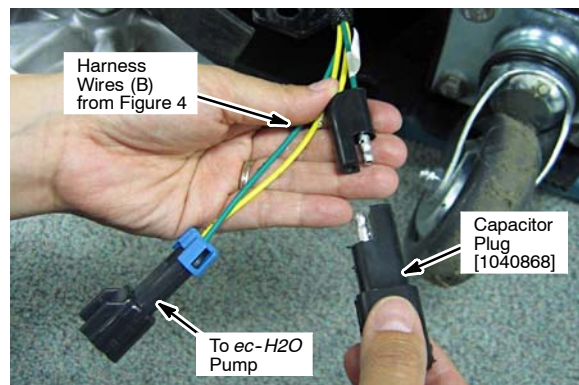

Fig. 24
5. Connect the capacitor plug [p/n 1040868] to the *ec-H2O* wire harness that was routed down to the scrub head area (Figure 24).